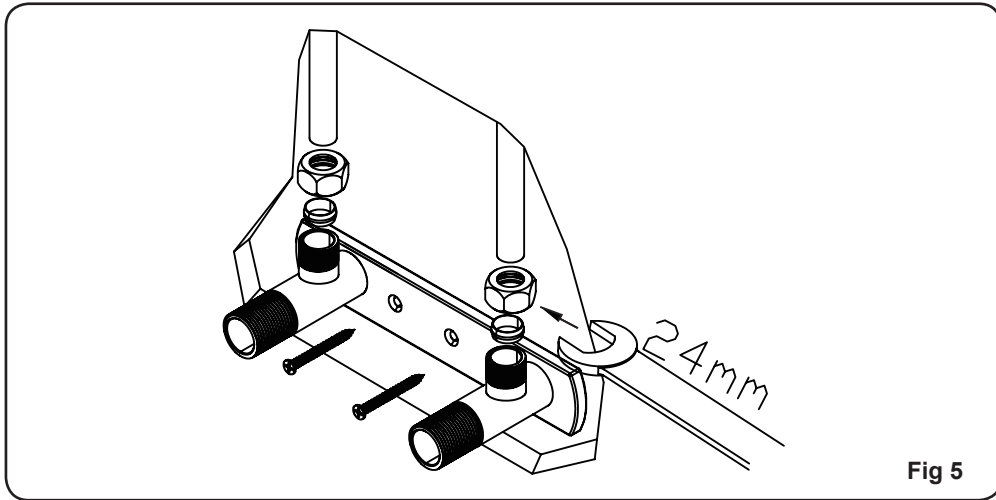

Fig 5
8. Connect the Elbow with Mounting Plate(2) to the pipework using, but do not tighten. See Fig 5.
9. Screw Wall Screw(5) through mounting plate to the position until secure. See Fig 5.
10. Tighten Fixing Nut (4) to the pipework until watertight. See Fig 5.